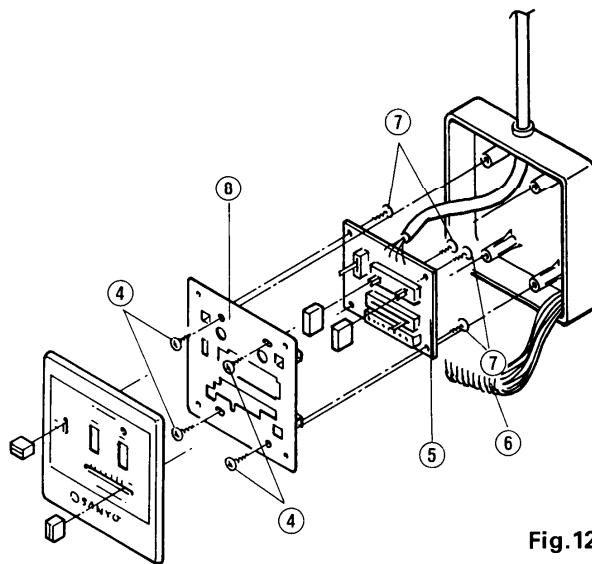

Fig.12
- ③ When the four screws ④ are removed, the cover plate ⑧ and the control switch PCB assembly ⑤ can be separated from the box.
- ④ For removal of the control switch PCB assembly ⑤, removed the connection of the lead wires ⑥ and remove the four screws ⑦. Fig.12.